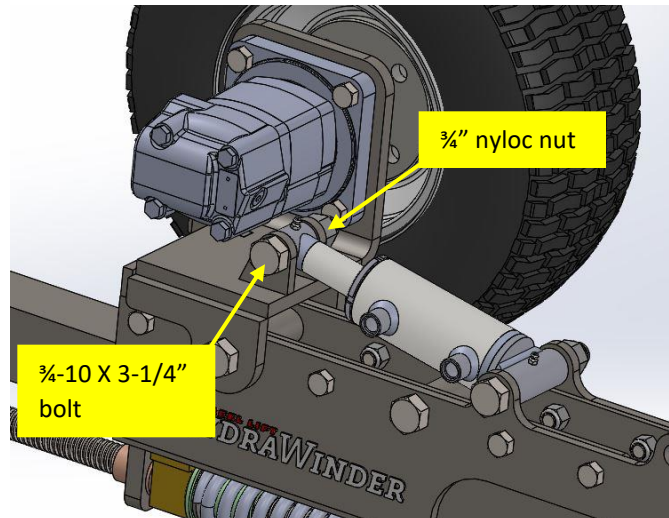

Figure 17
16. Thread the $\frac{3}{4}$ -10 X 3-1/4" bolt (**ITEM 25**) through the motor pivot bracket and through the rod end of the cylinder with the head of the bolt toward the outside of the vehicle. Thread a $\frac{3}{4}$ " nyloc nut (**ITEM 20**) onto the bolt and tighten both the rod end and base end nuts. **Figure 17**